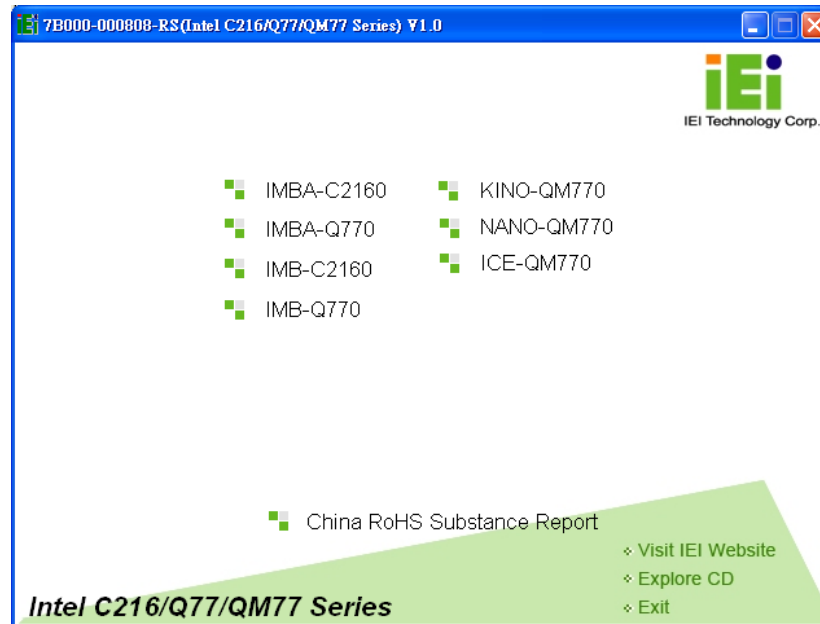

Figure 6-1: Introduction Screen
Step 2: The driver main menu appears (Figure 6-1).